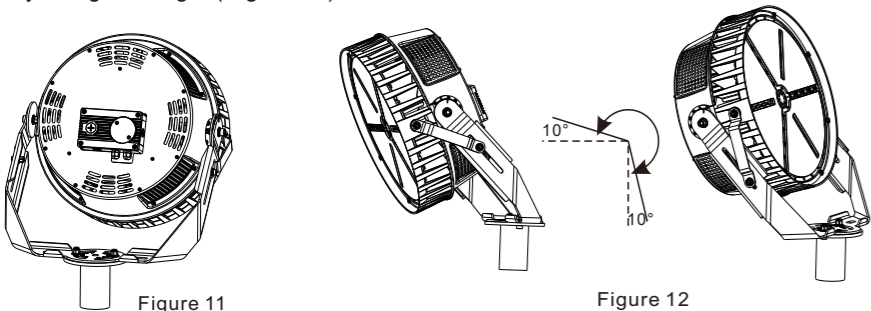

Figure 11
2. Use an open-end wrench and hex wrench to loosen the adjusting screw for adjusting the angle (Figure 11)